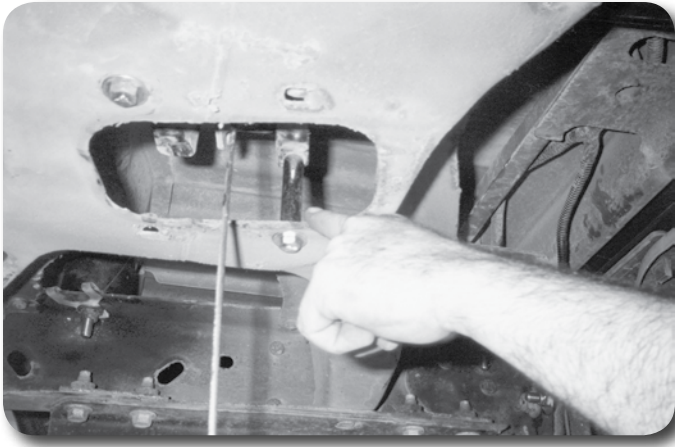

Figure 29
81. Lift the winch from its original position using two 2-1/2" long steel spacers **Figure 29**. Run 3/8" x 3-1/2" bolts with 3/8" washers through the stock mounting holes, through the spacers, and thread into the hoist. Use 3/8" lock nuts on the top side of the hoist to secure the bolts.